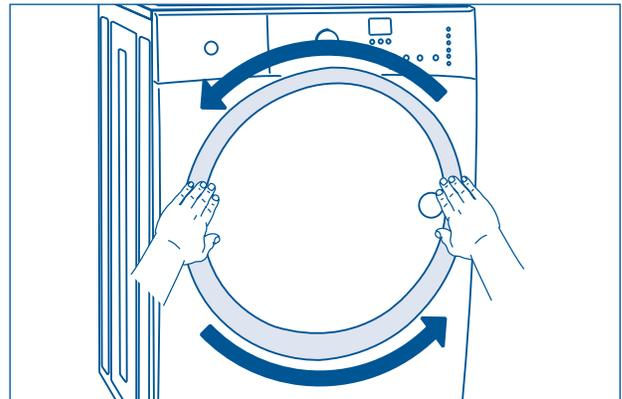

Figure 2-9.
4. Rotate the door trim approximately $\frac{3}{4}$ " counter-clockwise and pull it away from the front of the door. (See Figure 2-9)